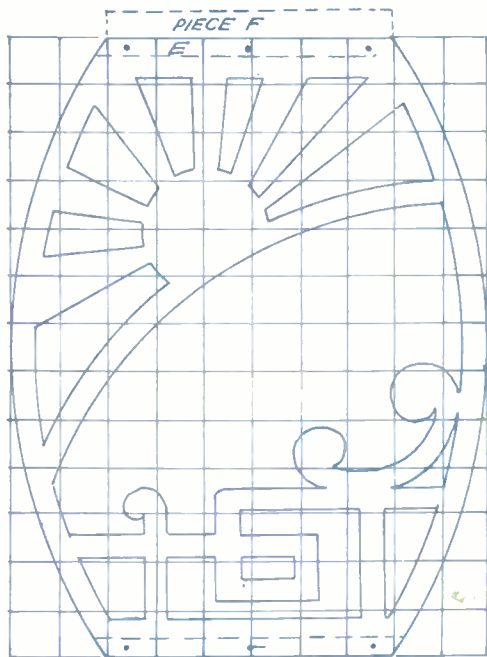

Fig. 4
in our sketch, is very similar in construction to our first one, only instead of the four side panels of the (A) design just one length of parchment is used on each side. The front and back panels measure 13ins. by 10ins., and the outline and interior work is given in Fig. 4 with